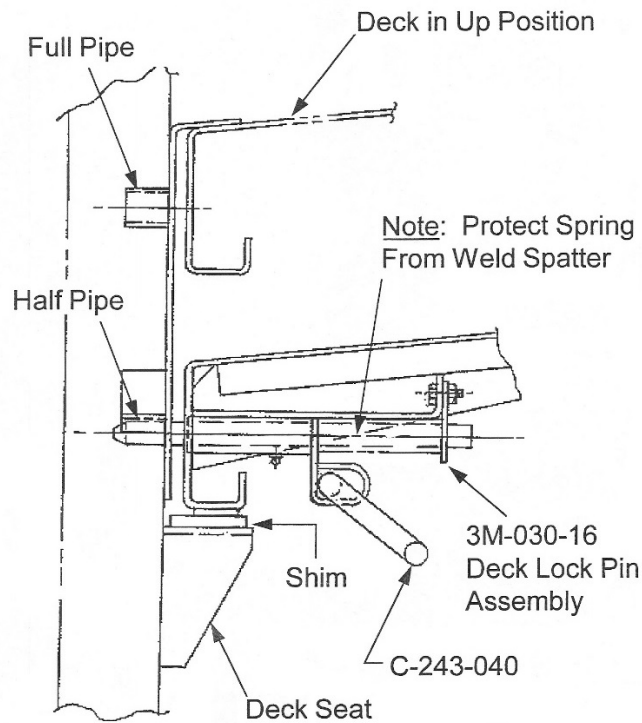

Figure 15. W&K Hinge Deck Lock
4. Refer to sketch in Figure 15 when replacing parts.